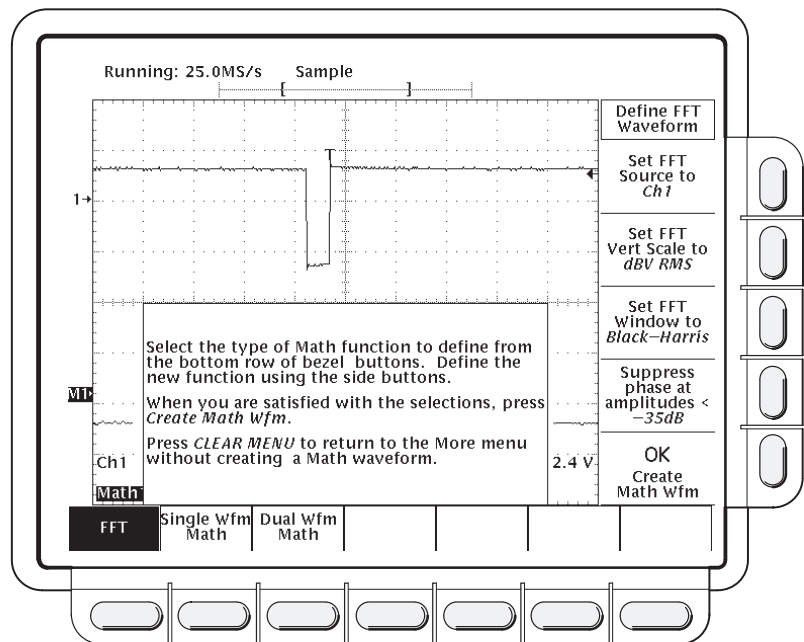

Figure 1-2: Define FFT Waveform Menu
- Press **Change Math Definition** (side) → **FFT** (main). See Figure 1-2.